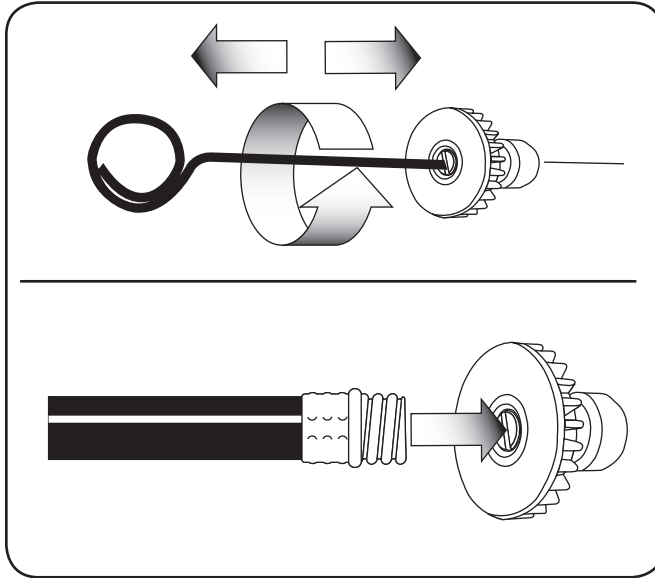

Figure 6-2
4. Remove the high pressure nozzle from the spray wand. Remove any obstructions with the nozzle cleaning tool provided and backflush with clean water. See Figure 6-2.